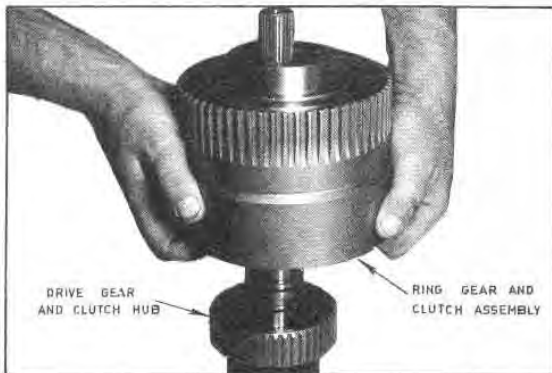

Fig. G68 — Installing the Ring Gear and Clutch Assembly on the Drive Gear
31. With the drive gear and forward clutch hub in an assembly tool, as shown in Figure G68, place the ring gear and forward clutch assembly over the drive gear, as shown in Figure G68.